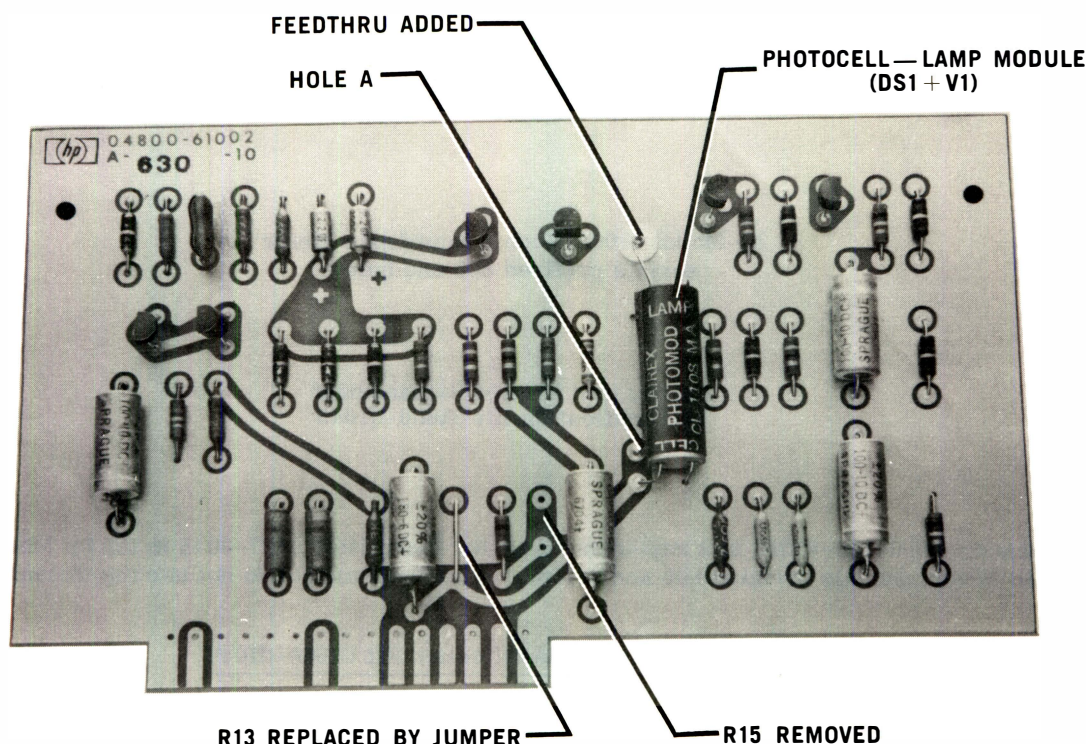

Figure 2. A17 After Modification
7. Connect short wire from hole "A" (Figure 2) to feedthru on back side of board.
Figure 2 shows A17 after modification.